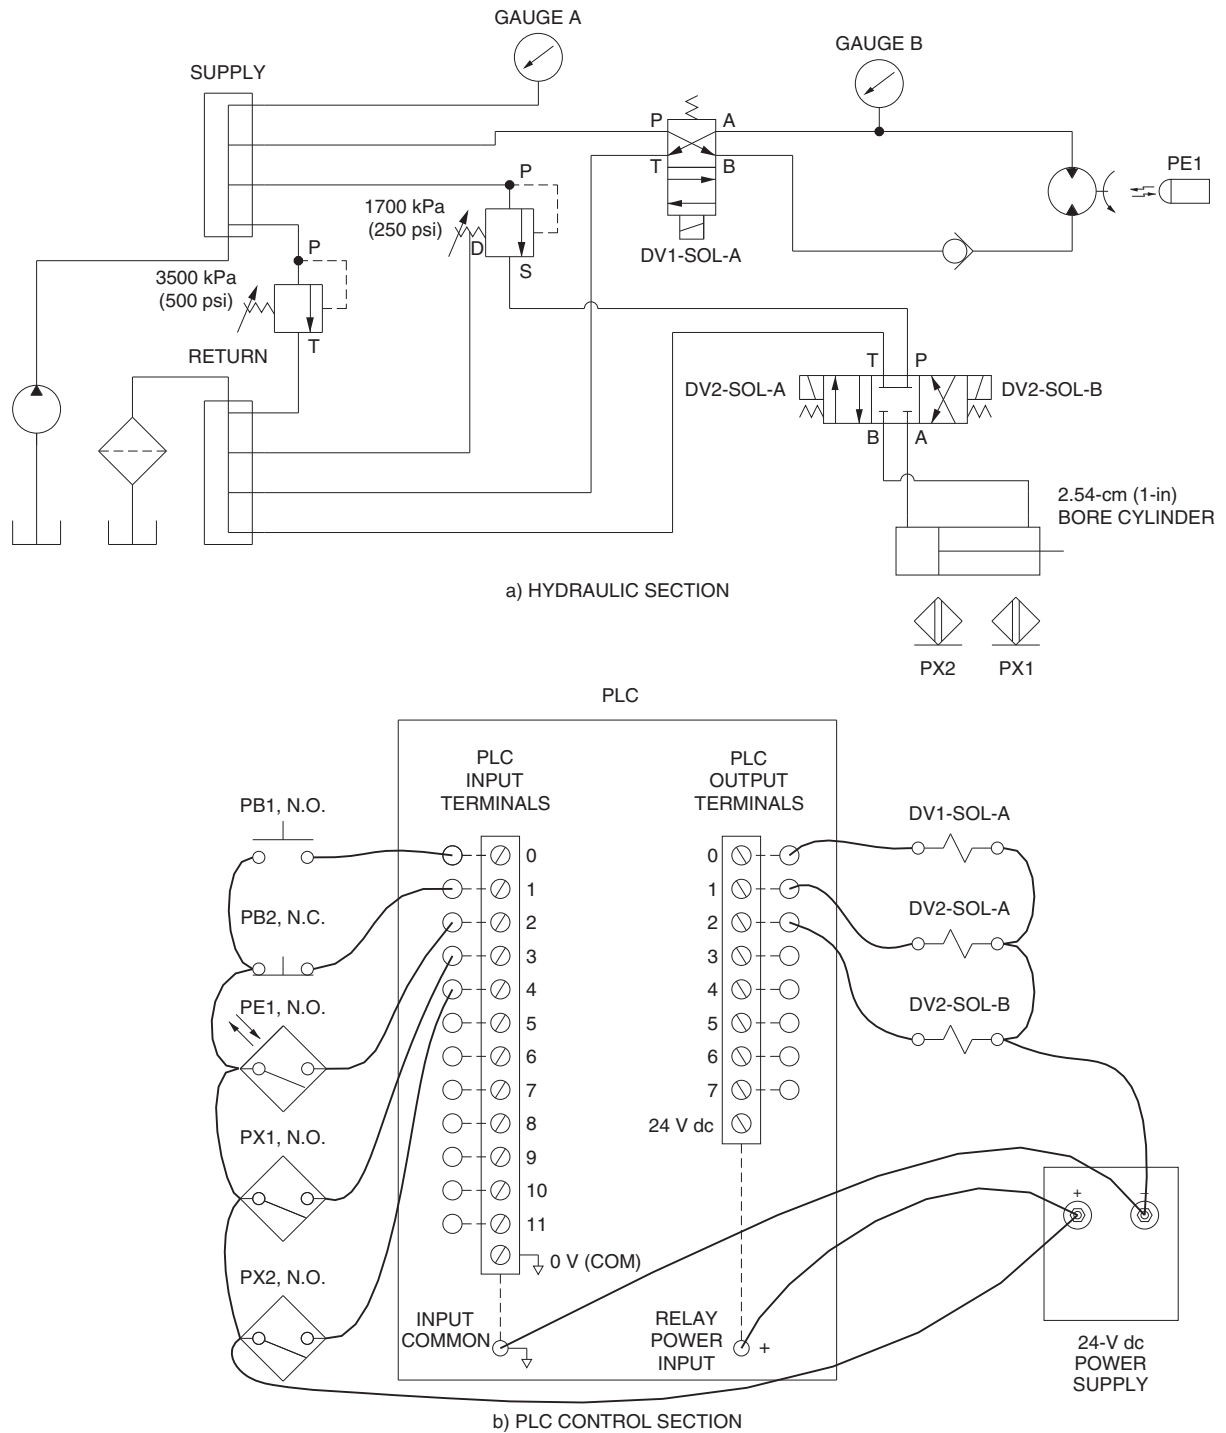

Figure 6-1. PLC-controlled hydraulic system to connect.
- 3. Connect the PLC-controlled hydraulic system shown in Figure 6-1. Mount magnetic proximity switches PX1 and PX2 so that they are activated when the cylinder rod is fully extended and fully retracted, as Figure 6-1 a) shows.